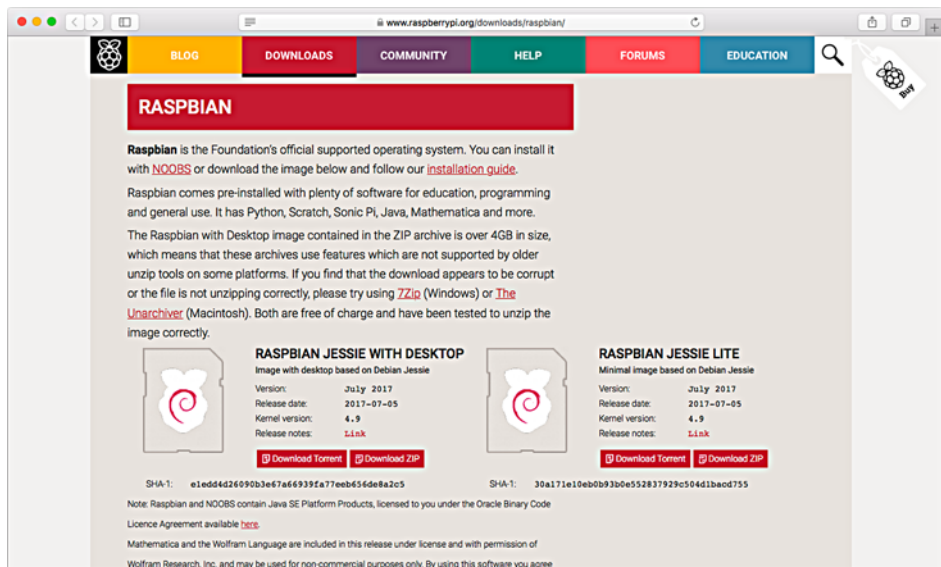

Figure 11.6 Download the full version of Raspbian from Raspberry Pi's Raspbian download page.
- 1 Download Raspbian (not NOOBS) from the Raspbian download page (www.raspberrypi.org/downloads/raspbian/) (figure 11.6).
BIG, HONKING RASPBIAN ZIP FILE As noted on the Raspbian download page (figure 11.6), the resulting zip file is big, and your default unzip utility may not be up to the task of unzipping it (mine wasn't). As suggested there, try The Unarchiver for Mac or 7Zip for Windows if you run into problems.